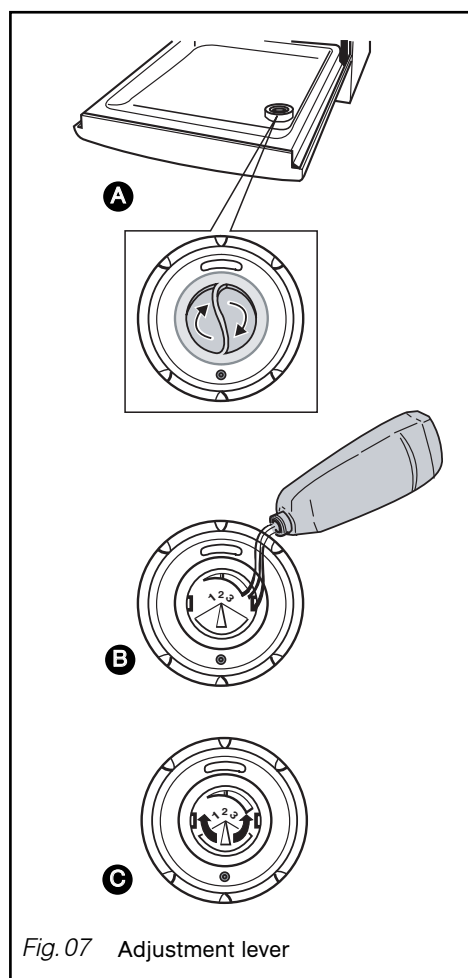

Fig. 07 Adjustment lever
• Filling with rinse aid (Fig. 07)
The original setting is in the centre (middle position: reference mark 2). If you encounter marks or poor drying after a few cycles, you can adjust the setting using the adjustment lever (fig 07 **C**; Reference mark 3 will increase the setting).